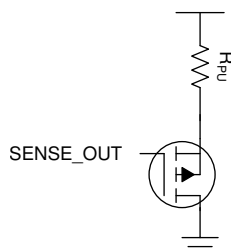

Figure 7-7. Additional Components for the PG Pin to be Pulled Up to Another Rail
Because the power-good (PG) pin is pulled up internally to the output rail, this pin cannot be pulled up to any external voltage like a typical open-drain PG output can be. If this signal must be pulled up to another logic level then an external circuit can be implemented using a PMOS transistor and a pullup resistor. Implementing the circuit shown in Figure 7-7 allows the outputs to be pulled up to any logic rail. If a PMOS transistor is used make sure to pick a transistor with a low threshold voltage as this determines the output low voltage. This can also be done with a NMOS transistor, but the NMOS transistor inverts the logic. This implementation also allows the use of an external pull-up rail.